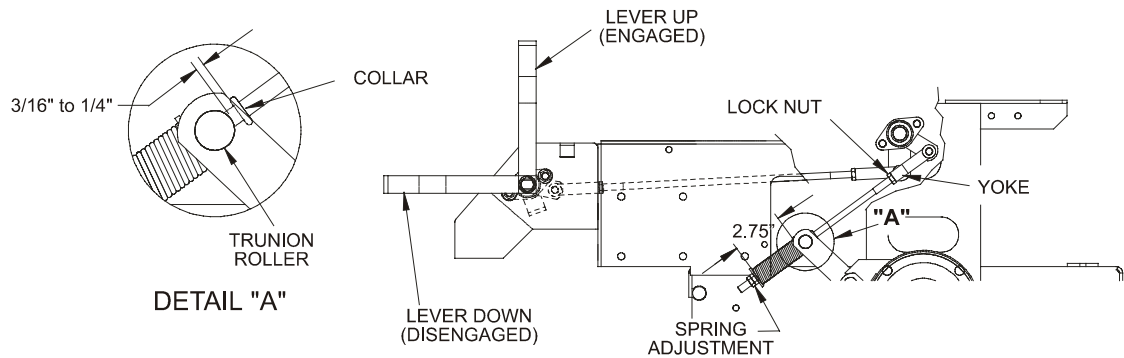

FIG. 8
- b) Measure the length of the spring. Measurement should be 2.75" between washers (see Fig 8).
- Measure the distance between the trunion roller and the rod collar as shown in Fig. 8A. Measurement should be 3/16" to 1/4" (See Fig 8). A 3/16" or 1/4" square key works well as a shim gauge.
- If adjustment is necessary, loosen the nut directly below the yoke. Turn the bottom nut (below washer) until the correct measurement is obtained (See Fig 8) turn nut clockwise to lengthen the gap (screws rod into yoke) and turn counter-clockwise to shorten the gap (screws rod out of yoke). Tighten nut against yoke and check opposite side of unit, repeat if necessary.